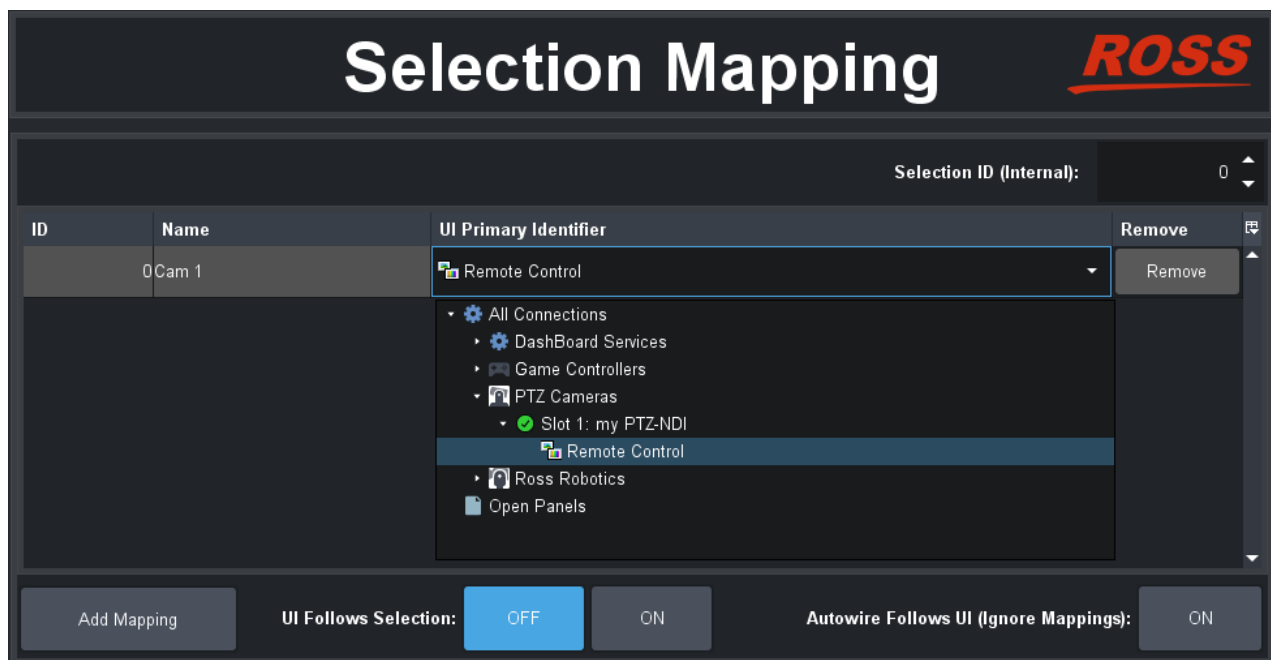

Figure 45 - Selecting a Camera System to be Mapped to a Button with ID 0
- In the **UI Primary Identifier** column, navigate to the **Remote Control** node for the PTZ camera or PT head, as shown in Figure 45, and then double-click it.